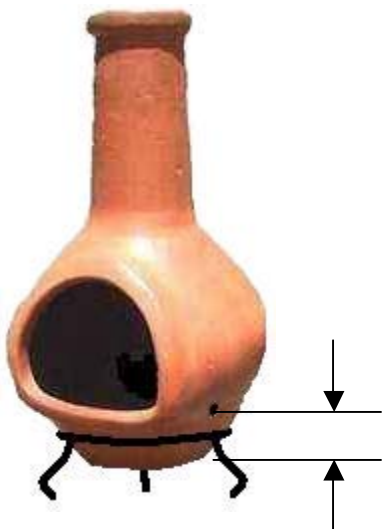

Figure 3
3. Measure, from the bottom of the chiminea base and at the side of the front opening, up to the centerpoint and place a mark for the hole. **See Figure 3**